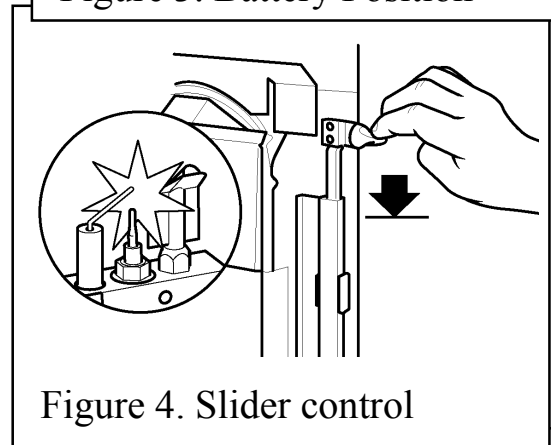

Figure 4. Slider control
- Depress the slider as far as it will go. This should close the ignition circuit. Sparks should be seen tracking from the electrode pin to the thermocouple tip. See figure 4.